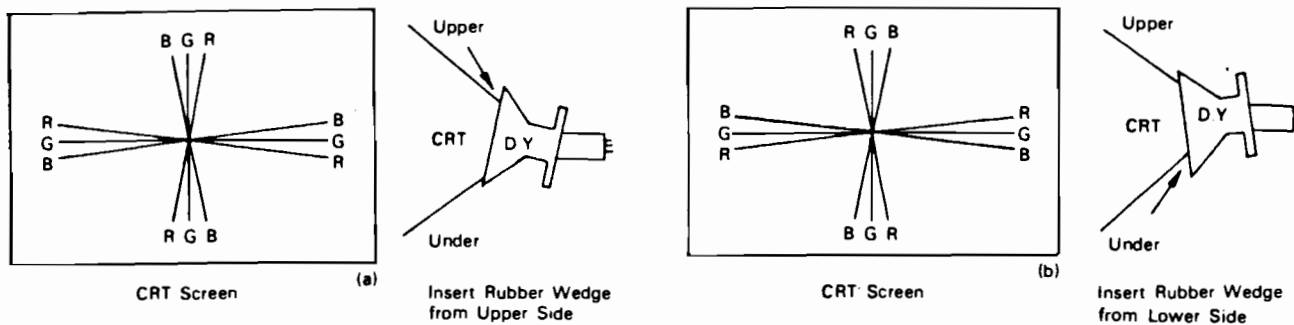

Figure 10
2. Insert the temporary wedge and fix Deflection Yoke so as to obtain the best circumference convergence (See Figs. 10 and 11).
- 1) Tilting the angle of the yoke up and down adjusts the crossover of both vertical and horizontal red and blue lines. See Fig. 10 (a) and (b).